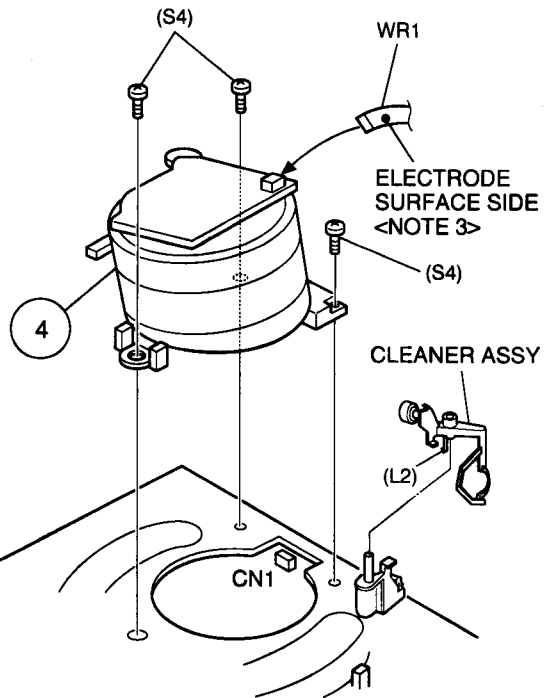
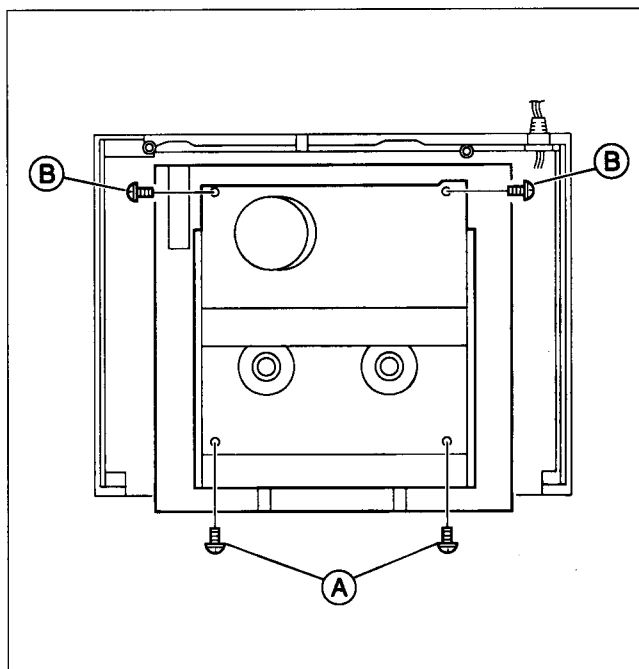

Fig. D4
Fig. 1-4-1
- (1) Remove the Top cover, Bracket and Front panel assembly. (See 1.3 DISASSEMBLY/ASSEMBLY METHOD. Take care not to pull the drum wire (Fig.D4) from CN1).
- (2) Lower the cassette holder, and make the preparations required in order to remove the bolts from the Main deck assembly (Refer to the "Procedures for Lowering the Cassette holder assembly" on pages 1-3 of 1.3 DISASSEMBLY/ASSEMBLY METHOD).
- (3) Take out 2 screws (A) and 2 screws (B) as shown in Fig. 1-4-1.